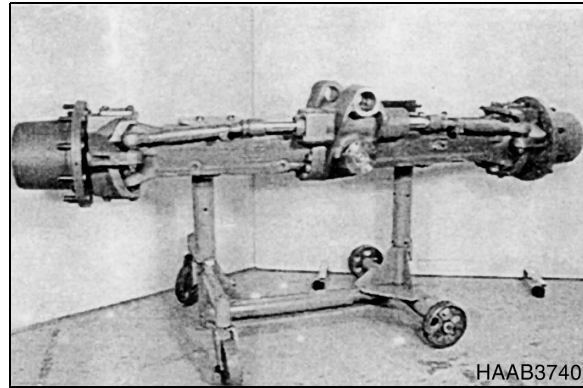

Figure 23
1. Figure 23, shows the complete axle on the assembly car.